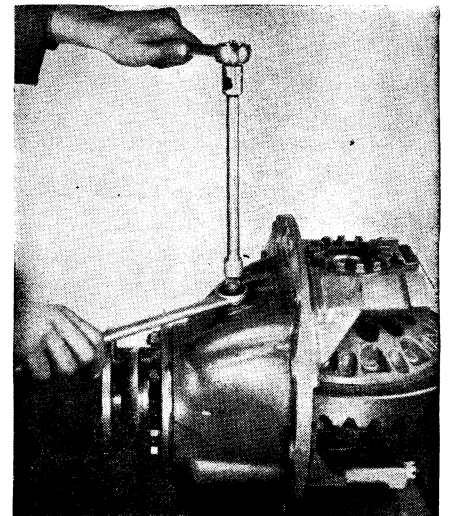

Fig. 92 Adjusting thrust block clearance by means of adjusting screw
4. Install adjusting screw and lock nut, Fig. 92, and tighten adjusting screw enough to locate thrust block firmly against back face of bevel gear.